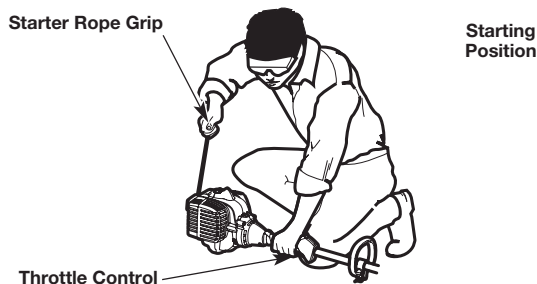

Fig. 10
Avoid accidentally starting the unit. To avoid serious injury, the operator and the unit must be in a stable position when pulling the starter rope (Fig. 10).
5. Crouch in the starting position (Fig. 10).
6. Pull the starter rope with a controlled and steady motion 5 times to start the engine (Fig. 10). Allow the